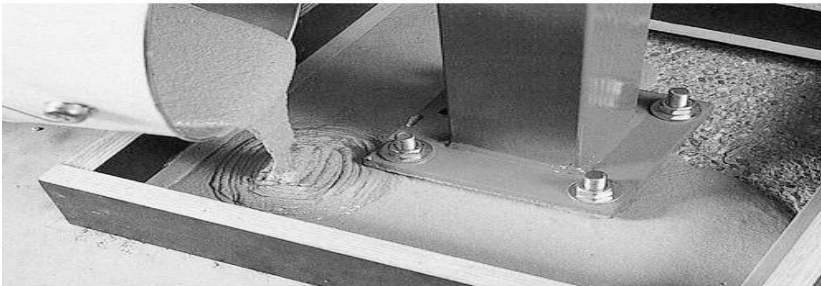

Figure 2: Typical external form around a support foot
3. Prepare the outside forms with a height that is greater than the distance from the concrete to the bottom of the base support flange. The forms must be installed to allow at least 3" (75 mm) of space between the largest outside dimension of the equipment support base (including mounting feet, if present). The forms shall be anchored every 24 inches (600 mm) with concrete fasteners. See Figure 2.